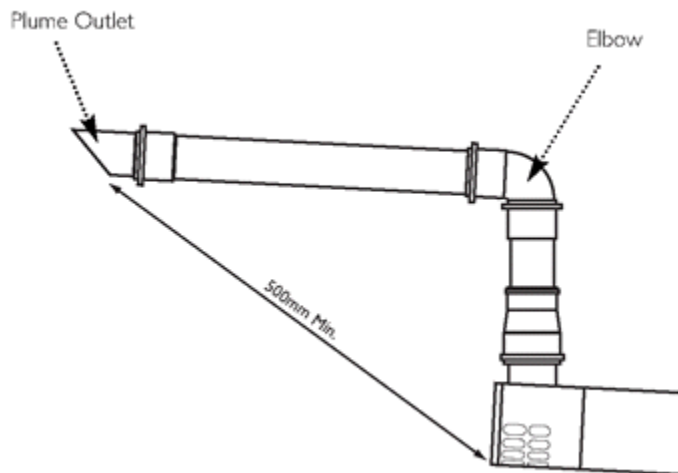

Fig. 21n
16. It is also possible to separate the plume outlet from the 93° elbow to allow the flue to be installed as shown in Fig. 21n.
vertical to horizontal 60Ø exhaust (Fig. 21n). Retighten the screws in the elbow.